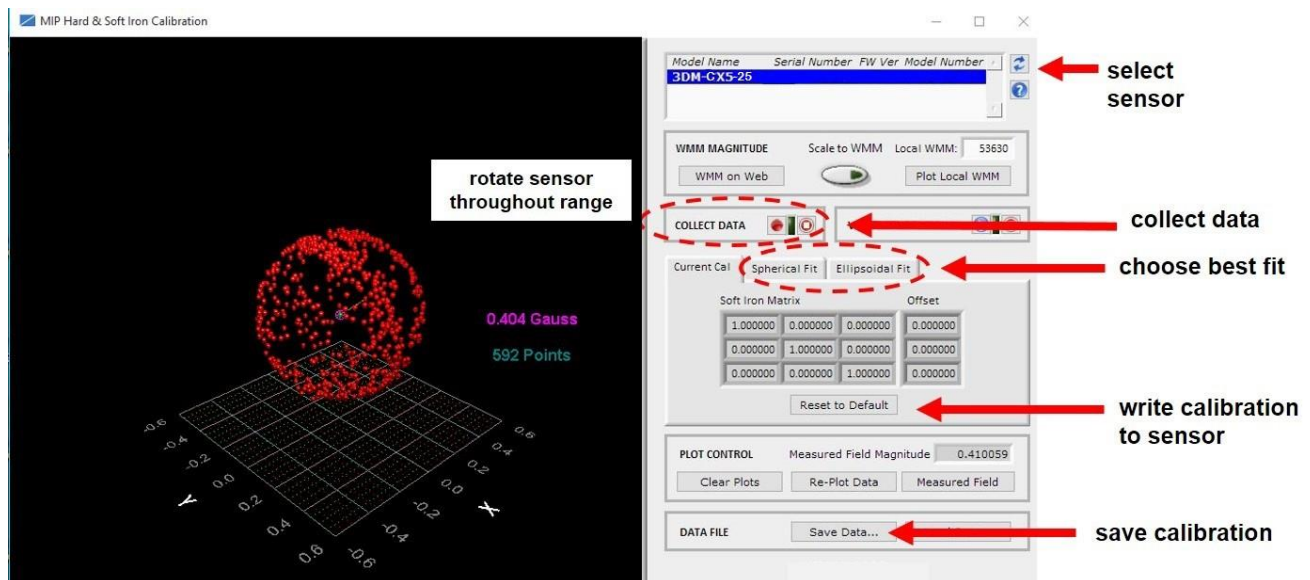

Figure 27 -Collect Calibration Data
- 6 Click the Spherical Fit or Ellipsoid Fit button, depending on the application (*Figure 27 - Collect Calibration Data*). Spherical Fit is often best for applications with calibration rotations restricted to a 2D plane: for example, a ground vehicle or a boat, because it will not likely not be rotated on all three axis. Ellipsoid Fit is generally a better correction when soft iron effects are present but only if enough data points can be collected in all quadrants. If the range of motion is restricted in one dimension, the Spherical Fit may be